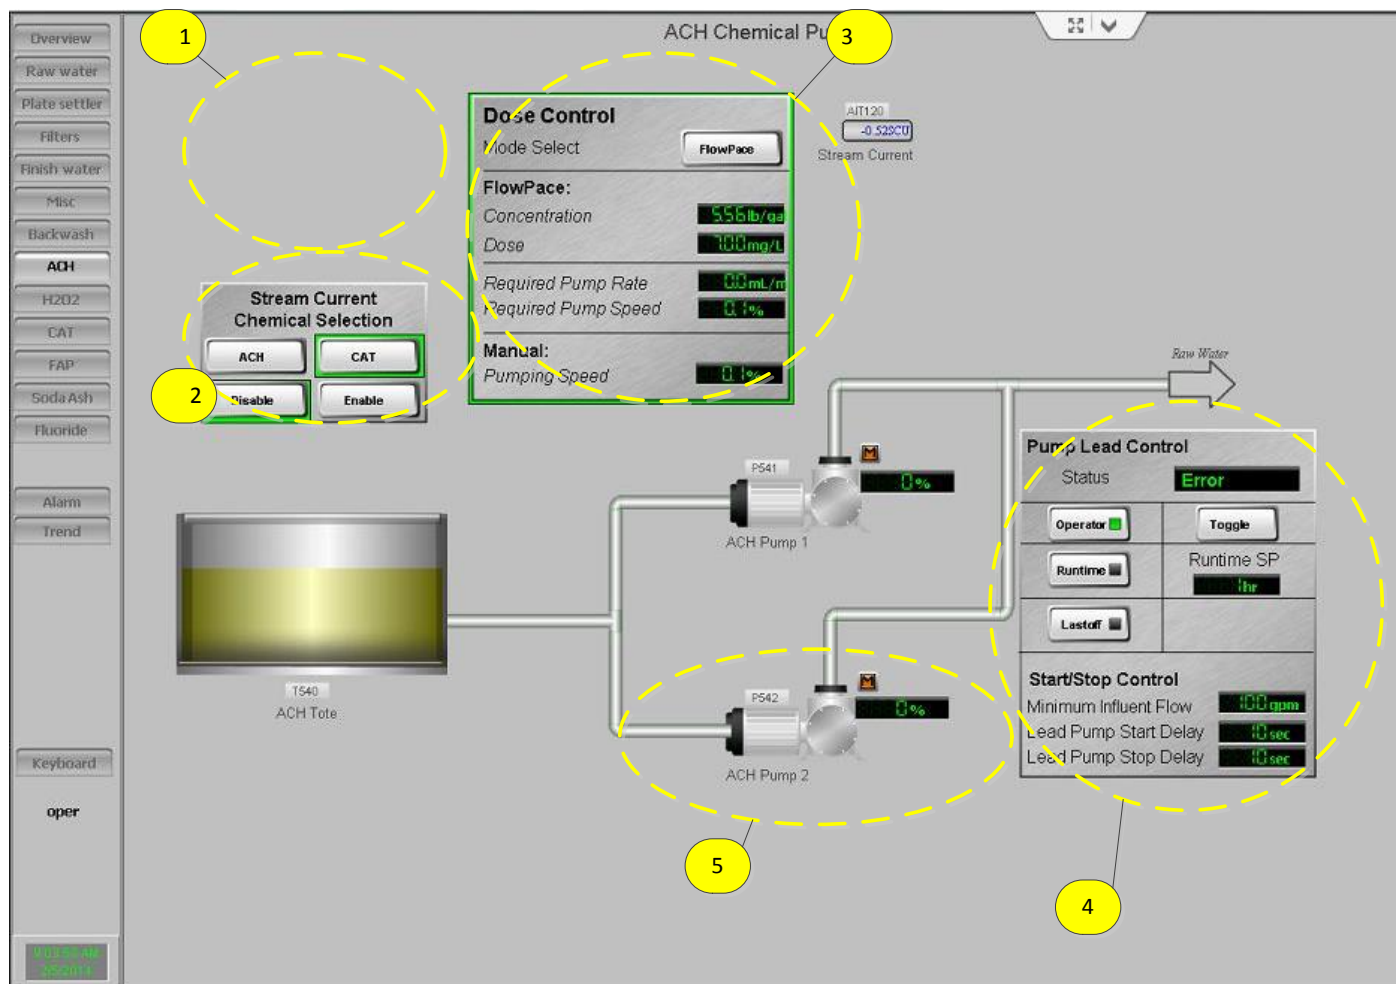

FIGURE 5-16
Aluminum Chlorohydrate, ACH, is the primary coagulant and has two control strategies: Constant dose flow pacing, and streaming current control. The two options are shown on the top left side of the pump control screen. The ACH screen is shown in Figure 5-16. The different dose controls are discussed in the sections below. In addition to the pump dosing control, Pump Lead/Lag control is shown (4). The pumps can be operated as a duty/standby with operator control, or alternated by the SCADA system using the Last Off or Runtime options. Clicking on each pump (5) bring up the individual pump control faceplate described in the Standard Function Section below.